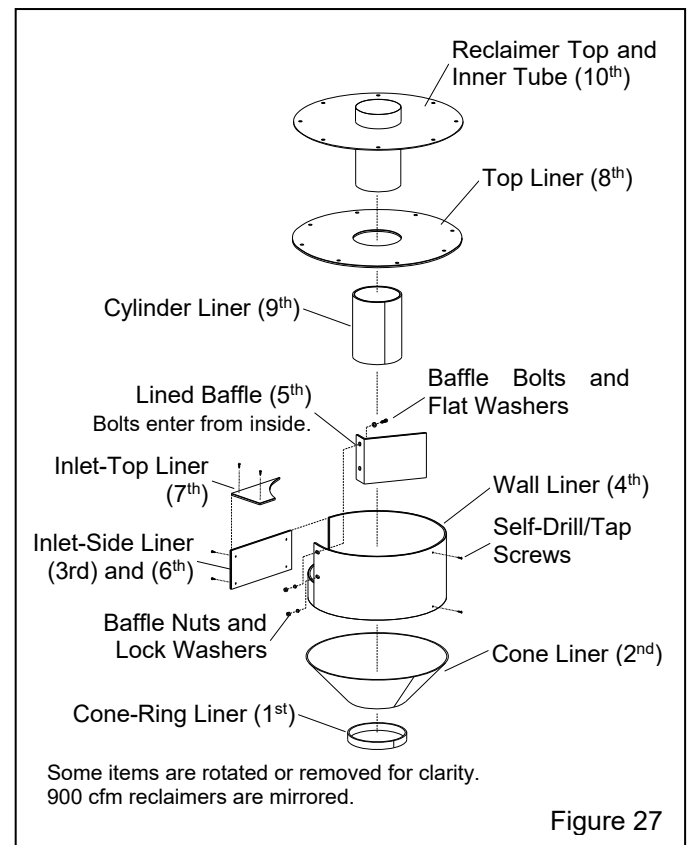

Figure 27
7.9 Replacing or Field Installing Optional Rubber Reclaimer Liners – Figure 27
The reclaimer must be designed to accept liners and have a removable top, as shown in Figure 27. **NOTE: The following instructions are to replace existing liners or to field install new liners into modular-style**
Installation Note: The numbers in parentheses (-) shown in Figure 27 and in the following applicable paragraphs show the recommended order of installation. When installing the liners, make sure that seams are aligned. The final assembly must be smooth and free of protrusions, edges, and gaps. Any edges will disrupt the air flow, causing wear and affecting the reclaimer's media cleaning efficiency.